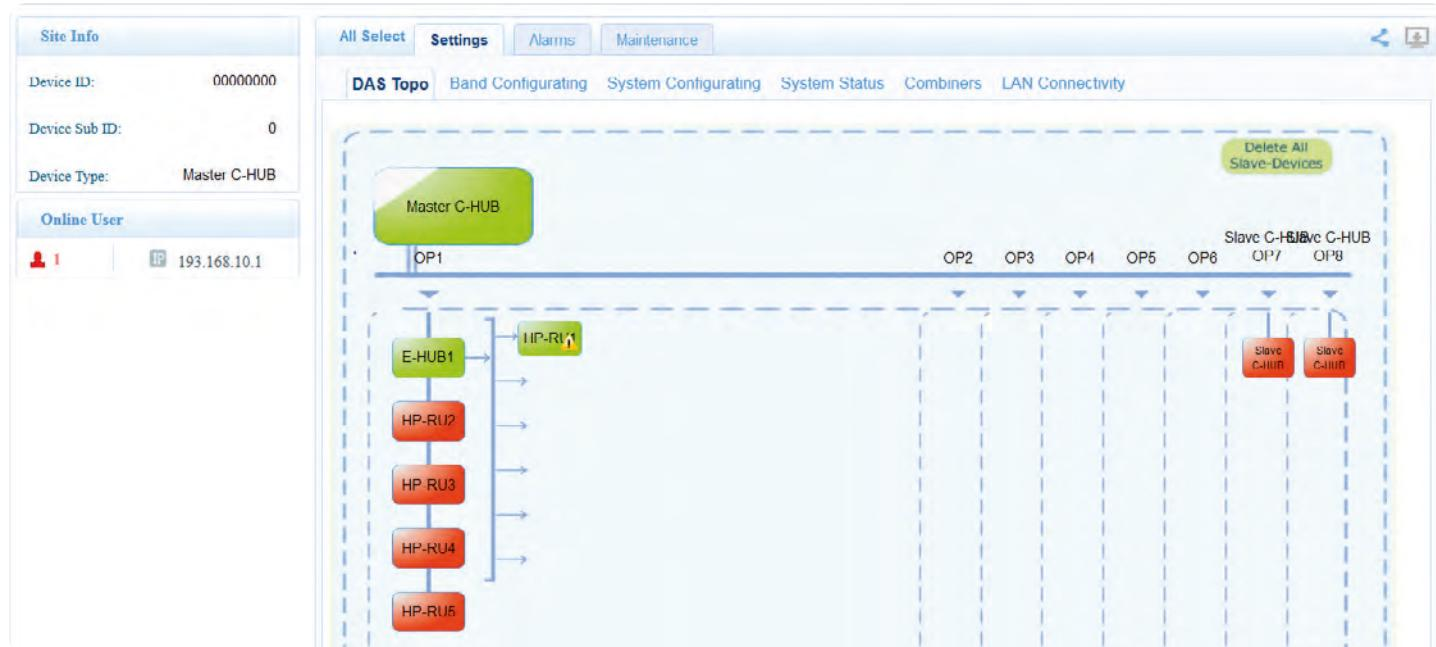

Fig. 7: Web GUI of master C-hub
- ⇒ The web GUI is displayed showing the homepage (**Settings** ▶ **DAS Topo**) of the master C-hub (Fig. 7, p. 19).
2. Check the topology if all devices in the system are connected (C-/E-hubs and HPRUs); see example in Fig. 7.